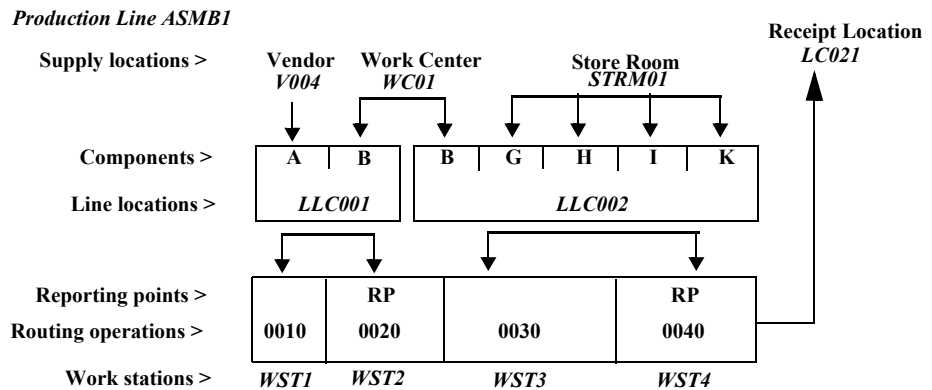

Figure 2-1. Typical production line.
The REP application requires multiple location support (an example is component B in Figure 2-1), which can occur only in a controlled warehouse. You define the warehouses that are controlled by using Work With Warehouses in Inventory Management (IM).
Another activity defines the routing for each item scheduled on the line. The routing can be a single operation (such as assemble and package) or have multiple operations. Each operation is performed at a work station or center. The production line can be set up as a series of adjacent work stations (often with interconnecting material handling devices) or it can use work centers that are not close together, sending materials from one center to the next using material handlers. In Figure 2-1, operations 0010, 0020, 0030, and 0040 are performed at work stations WST1, WST2, WST3, and WST4, respectively.
Components and standard labor are backflushed from the reporting operation to the previous reporting point. In Figure 2-1 completed units reported at operation 0040 (the last operation) cause material and labor consumed at operations 0040 and 0030 to be backflushed, while partially completed units reported at operation 0020 backflush materials and labor consumed at operations 0020 and 0010.
Another activity is to define the operation where each component is used. Each component record in the bill of material identifies the operation where the component is used. If a component is used in more than one operation (such as a common fastener), the component must be entered into the bill of material each time it is used on a different operation. Because each component in the bill of material must be uniquely identified, you need to add a user-sequence number to the component item number. This allows you to see the components used by each operation. In Figure 2-1, component B is used in operations 0020 and 0030. Component B, therefore, has two records in the bill of material.